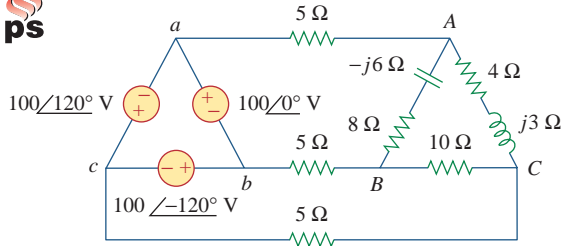

Figure 12.58
- 12.39** Find the real power absorbed by the load in Fig. 12.58.
- 12.64** For the circuit in Fig. 12.58, use *PSpice* to find the line currents and the phase currents.